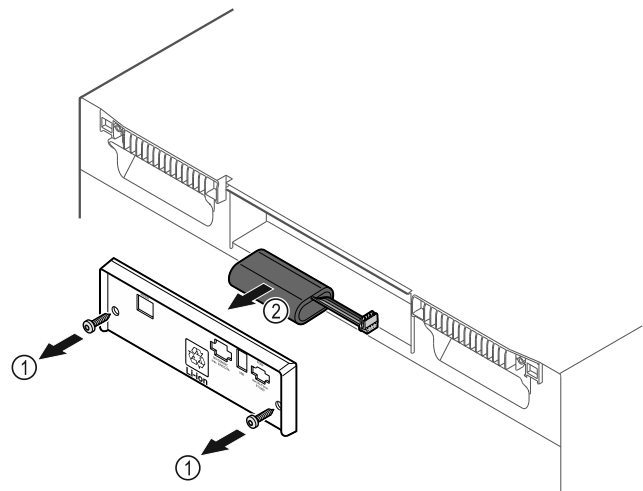

Fig. 186
- ▶ Unscrew screws and remove cover from the back of the appliance Fig. 186 (1).
- ▶ Disconnect and remove battery Fig. 186 (2).